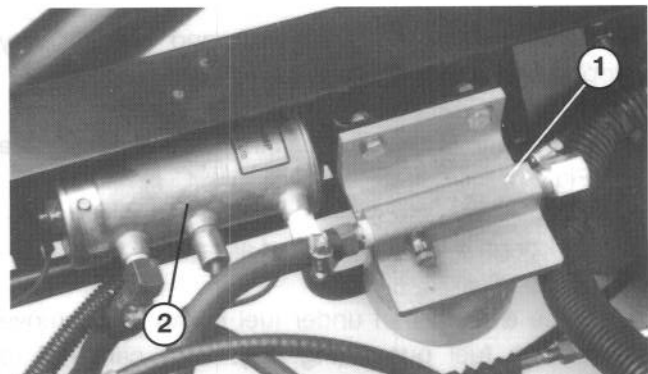

Figure 36
FUEL SYSTEM (Fig. 36–38)
2. Fuel filter/water separator is mounted on inner side of right frame rail (Fig. 36).
2. Fuel pump is mounted on inner side of right frame rail (Fig. 36).